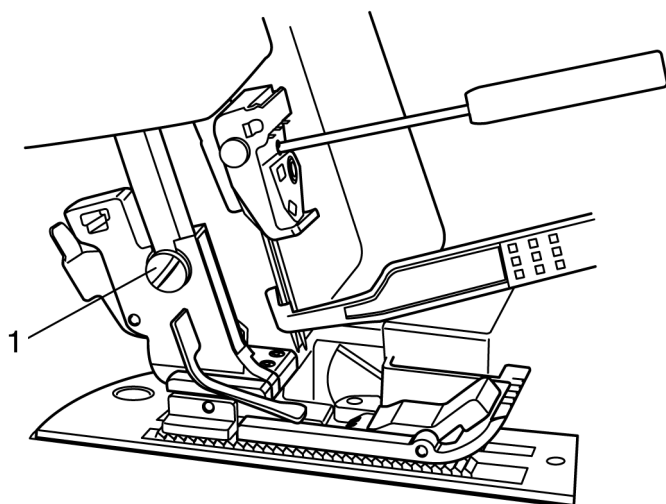

Fig. 1
- Unscrew and remove the fastening screw 1 (fig. 1).